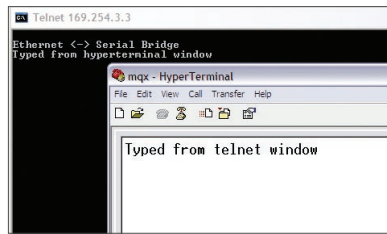

Figure 2: Ethernet to Serial Bridge
- Now the serial console and the telnet sessions should be “bridged.” Type some characters into the telnet session, and you should see the characters appearing on the console terminal window. See Figure 2 for how it will appear.